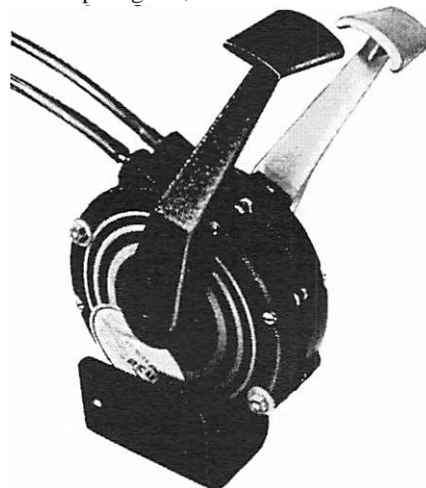

Figure 5. Dual Housing Installation
2. Install dual control bracket with washers and longer screws from kit. (Figure 5)
3. Replace handle of outside control with reverse bend handle from kit to allow side-by-side hand grips like multi-engine aircraft throttles. (Figure 5)